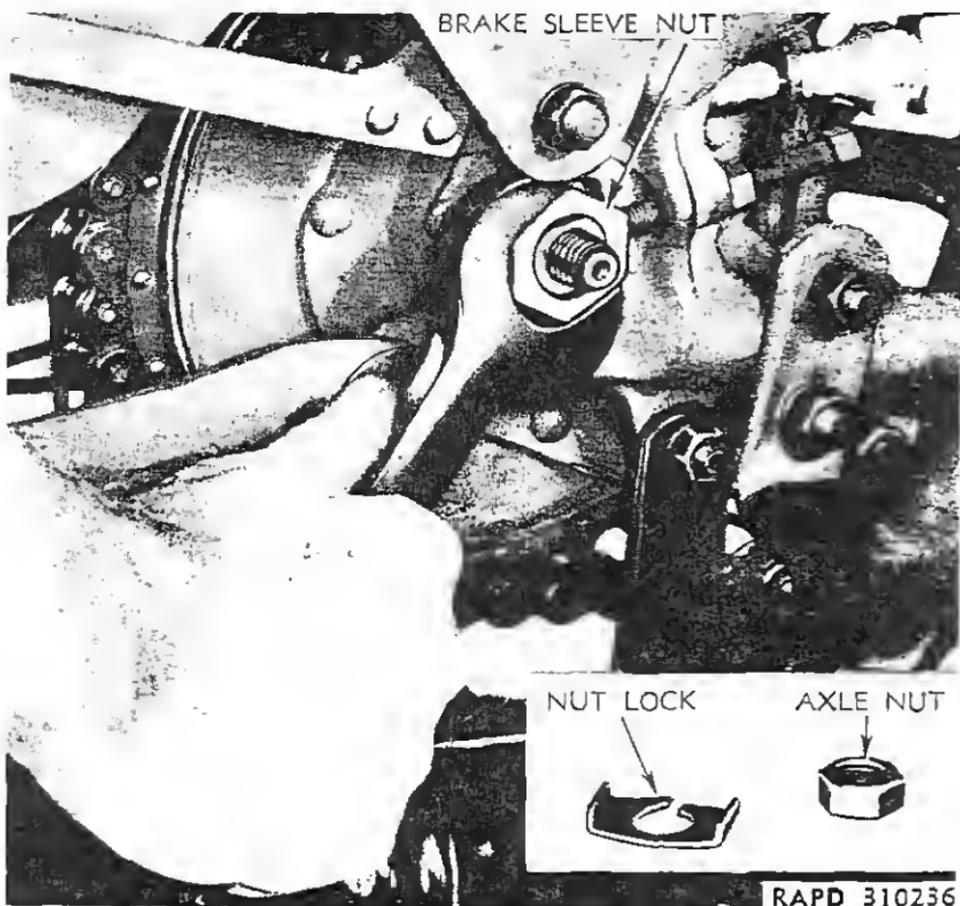
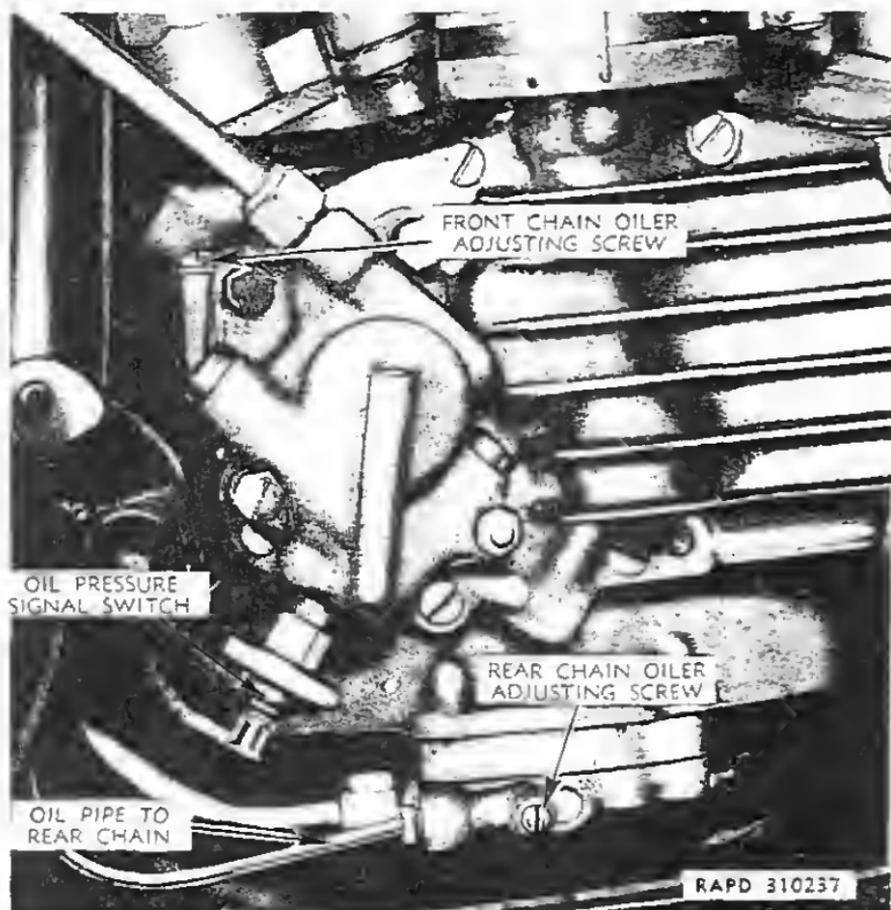

Figure 39—Brake Sleeve Nut
Figure 40—Chain Oilers
60. ADJUST REAR CHAIN AND ALINE REAR WHEEL (fig. 39).
(1) Remove rear axle nut and lock washer (right side of vehicle).
(2) Loosen brake sleeve nut enough to allow brake assembly to slide backward or forward in frame mounting (fig. 39).
(3) Loosen the two (right and left side) rear wheel adjusting screw lock nuts.
(4) Turn wheel adjusting screws clockwise (to right) to move wheel and sprocket backward. This tightens chain. NOTE: *If chain is too tight, turn wheel adjusting screws counterclockwise (to left) so that wheel can be shifted forward. This will loosen chain.* Always turn the two wheel adjusting screws an equal number of turns in order to keep wheel alined.
(5) Check correct alinement of wheel by noting that tire (not tire rim) runs approximately midway between lower rear frame tubes at the point where tubes join transmission mounting. It is desirable to have tire run slightly closer (not more than $\frac{1}{16}$ in.) to right than to left side lower tube. A further check of alinement is observing that rear sprocket runs centrally in chain. CAUTION: *If rear wheel is not correctly alined, vehicle steering will be affected, and sprockets will wear excessively on one side.*
(6) With adjustment of chain and wheel alinement completed, securely tighten wheel adjusting screw lock nuts, and brake sleeve nut; replace axle lock washer and nut, tightening nut.
(7) Recheck adjustment of chain as tightening brake sleeve nut and axle nut sometimes changes the chain adjustment.
(8) After tightening rear chain, rear brake may be found too tight. Check and correct brake adjustment (par. 96).
61. CHAIN OILERS (fig. 40).
(1) Add thin (0.002-inch thick) washer under head of front chain oiler adjusting screw (fig. 40). Do not remove any washers already under head of screw.
(2) To check results, refer to step b above.
(1) To adjust oiler, remove thin (0.002-inch thick) washer from under head of front chain oiler adjusting screw (fig. 40).
(1) Adjust oiler by adding thin (0.002-inch thick) washer under head of rear chain oiler adjusting screw (fig. 40). Do not remove any washers already under head of screw.
(1) To adjust oiler, remove thin (0.002-inch thick) washer from under head of rear chain oiler adjusting screw (fig. 40).
g. At 1000-mile intervals, loosen both front and rear chain oiler adjusting screws (fig. 40) two turns each. Do not remove screws. Start and idle engine 1 minute, then tighten screws firmly, but do not force. This operation serves to flush oiler control valves and rear chain oiler pipe.